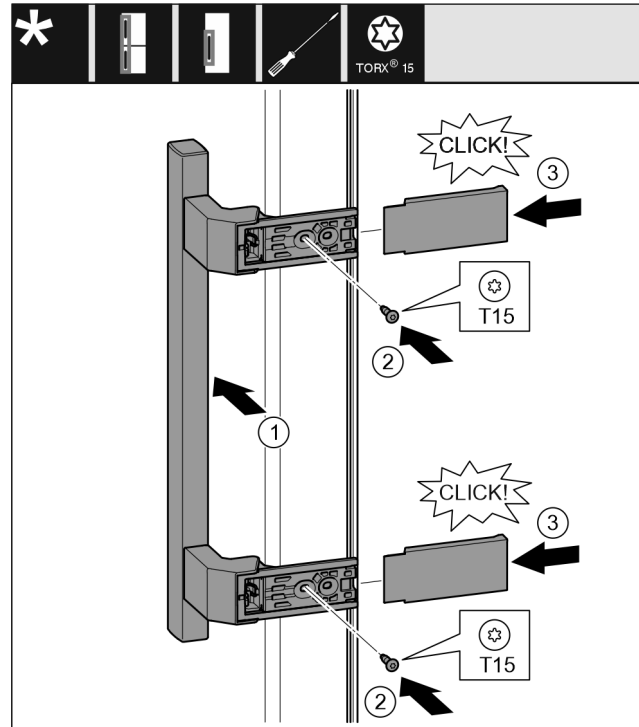

Fig. 20
- Position the handle on the opposite side. Fig. 20 (1)
- Tighten the screws using the T15 screwdriver. Fig. 20 (2)
- Position the covers on the side and push them on. Fig. 20 (3)